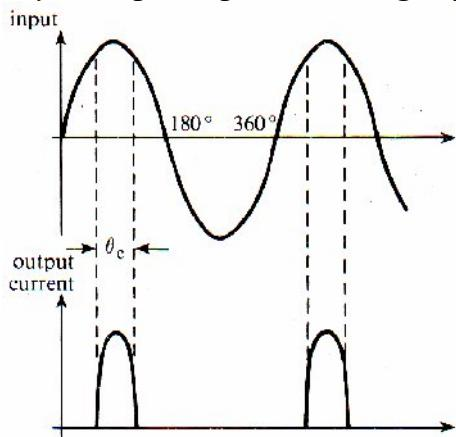

Figure 4-25 Output current in a class-C amplifier
A class-C amplifier is one whose output conducts load current during less than one-half cycle of an input sine wave. Fig 4-25 is a typical class-C current waveform, show that the total angle during which current flows is less than 180° . This angle is called the conduction angle, θ_c . Of course, the output of a class-C amplifier is a highly distorted version of its input. It could not be used in an application requiring high fidelity, such as an audio amplifier. Class-C amplifiers are used primarily in high-power, high-frequency applications, such as radio-frequency transmitters. In these applications, the high-frequency pulses handled by the amplifier are not themselves the signal, but constitute what is called the carrier for the signal. The signal is transmitted by varying the amplitude of the carrier, using the process called amplitude modulation (AM). The signal is recovered in a receiver by filtering out the carrier frequency. The principal advantage of a class-C amplifier is that it has a very high efficiency.
The conduction angle θ_c in Fig 4-25 can be found from